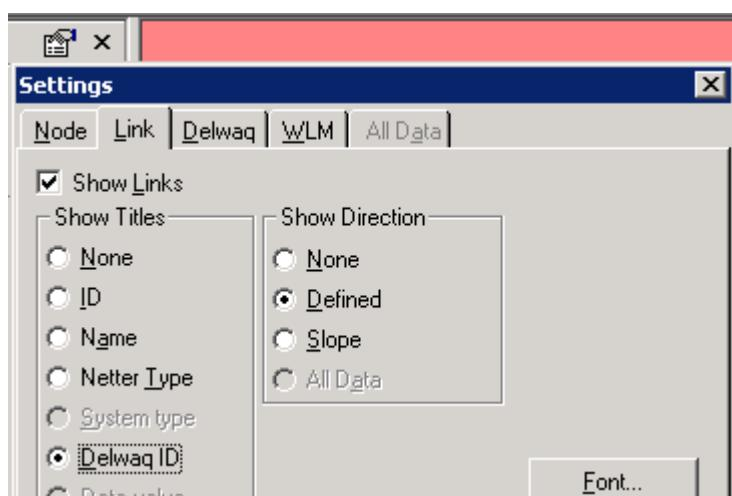

Figure 11
When the option “*write output for all segments*” in the tab **Output options** of the **Settings** task block is chosen, the identification (ID) of the temperature segments is shown showing the “*Legend*” options and selecting *Delwaq ID* of the *Link* tab as in Figure 11.